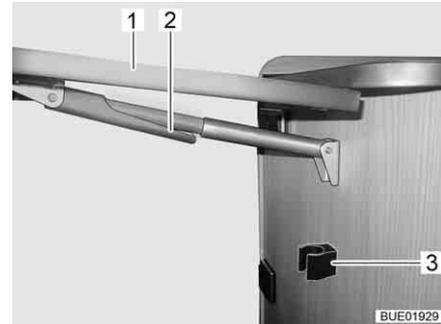

Fig. 27 Folding away the folding worktop
- Hold the folding worktop (Fig. 27,1) at the edges and lift gently. With your other hand, swing down the fixture (Fig. 27,2) on the telescopic holder.
- Fold down the worktop until the telescopic holder clicks into position in the holder (Fig. 27,3).